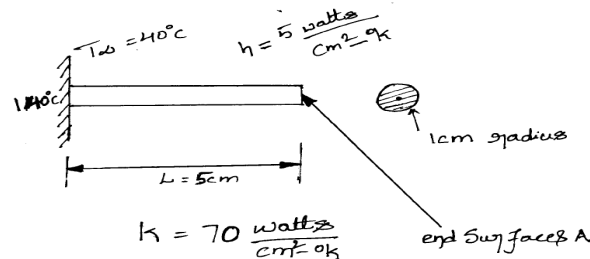

Fig.4
7. (a) Find the temperature distribution in the one dimensional fin as shown in Fig.4.